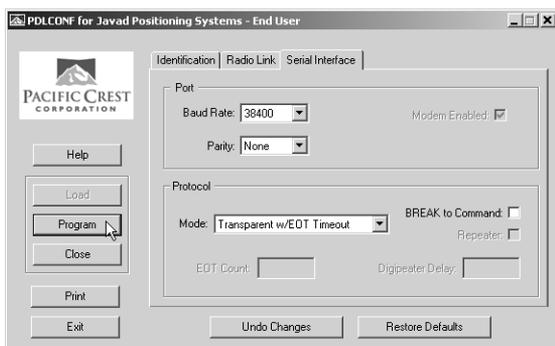

Figure 2-32. PDL – Click Program
- If you made changes, click the **Program** button on the left of the screen to save them to the modem's memory (Figure 2-32).